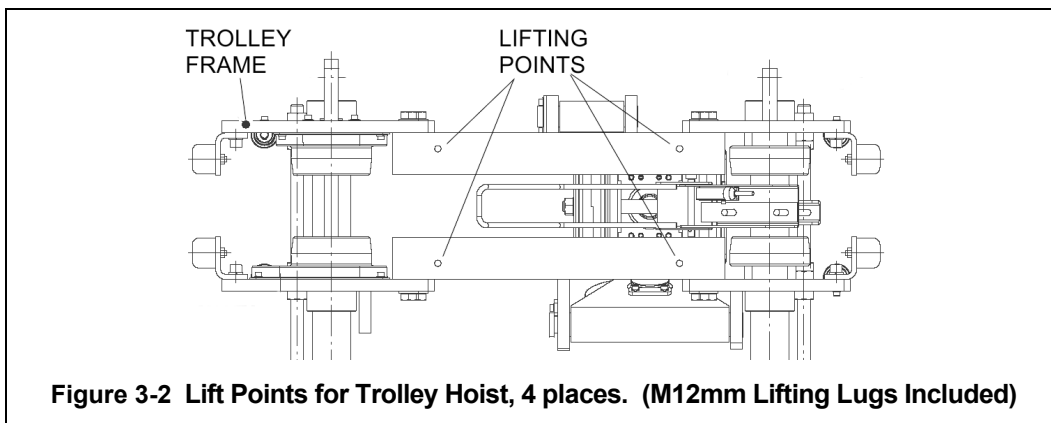
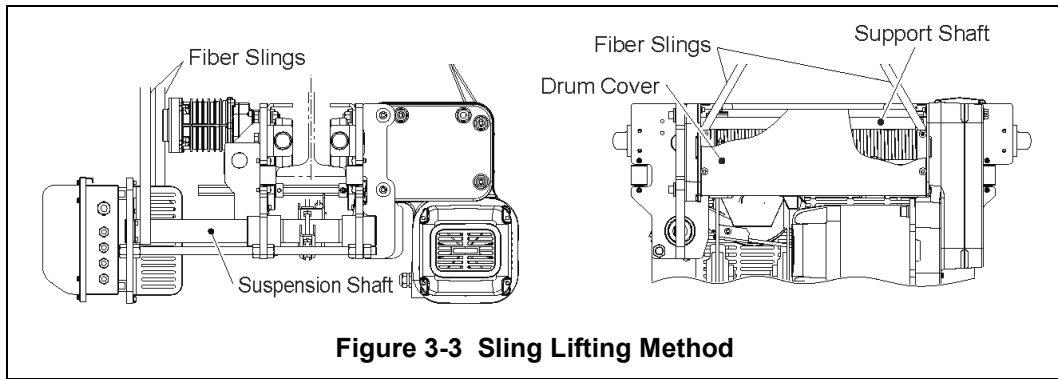

Figure 3-2 Lift Points for Trolley Hoist, 4 places. (M12mm Lifting Lugs Included)
Figure 3-3 Sling Lifting Method
- 3.2.2 Lift points – When a pallet is not practical, use of the RY lifting points or the trolley frame is acceptable. The RY trolley hoist is equipped with threaded lifting lugs in the horizontal tubes (see **Figure 3-2** and **Figure 3-3**). While lifting do **NOT** support the trolley hoist any other way.